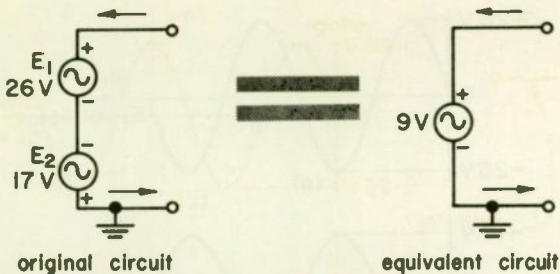
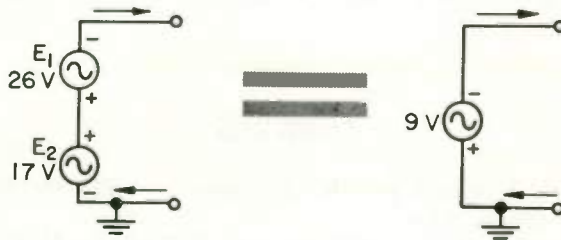

Fig. 10
Fig. 13
- Redraw the original and equivalent circuits in Fig. 10 to show
7. 9 8. See Fig. 10. 9. See Fig. 13.